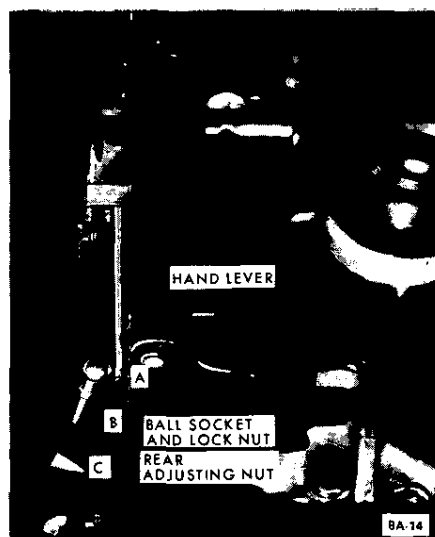

Figure 8A-14 Removing Ball Seat at Control Lever
11. Install adjusting lock nut approximately 1/2" on thread. See Figure 8A-13 "B."
12. Install lock nut and ball stud on end of cable. See Figure 8A-14 "B."